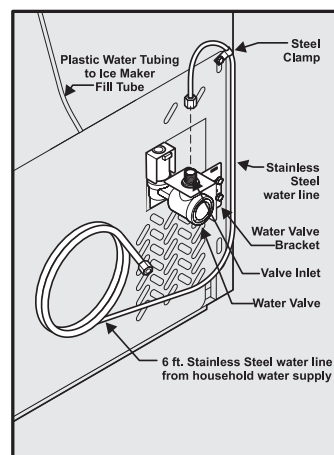

Figure 2
- If you use stainless steel tubing** - The nut and ferrule are already assembled on the tubing. Slide compression nut onto valve inlet and finger tighten compression nut onto valve. Tighten another half turn with a wrench; **DO NOT** overtighten. See Figure 2.